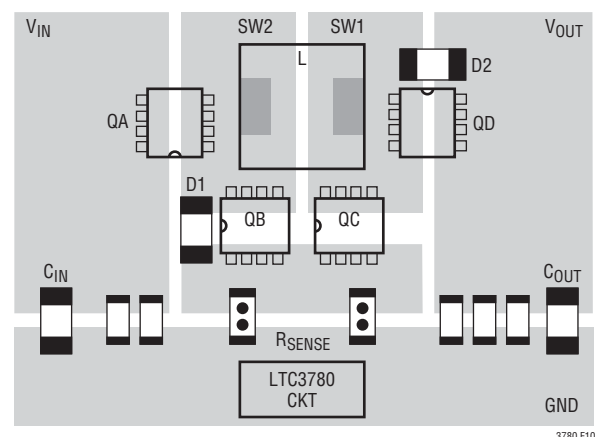

Figure 10. Switches Layout
- Place  $C_{IN}$ , switch A, switch B and D1 in one compact area. Place  $C_{OUT}$ , switch C, switch D and D2 in one compact area. One layout example is shown in Figure 10.